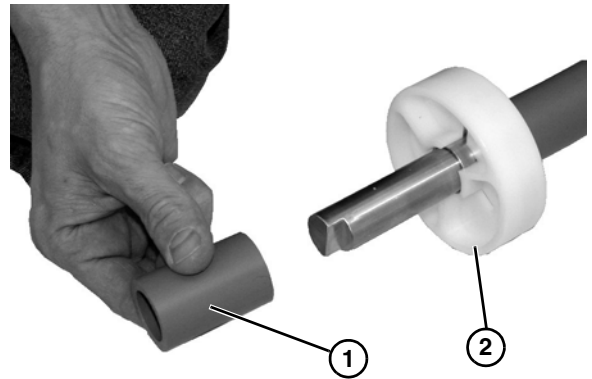

Figure 45
5. Slide off the round puck spacer (Figure 45, item 1).
6. Slide off puck and replace (Figure 45, item 2).